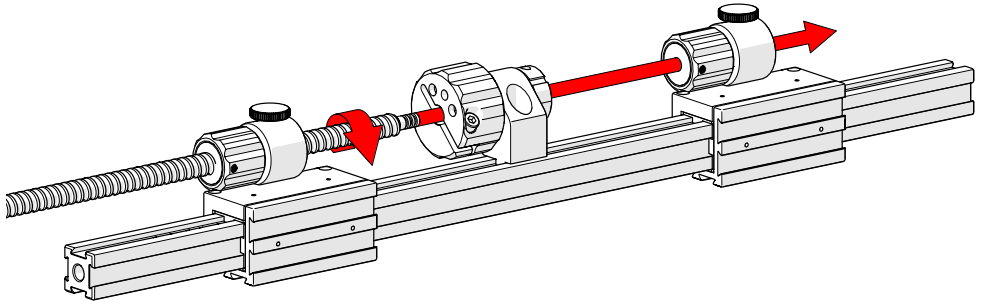

Fig. 141 - Screw leadscrew into place
4. Screw the leadscrew into the first slider, then the main knob and finally the 2nd slider assembly (Fig. 141).